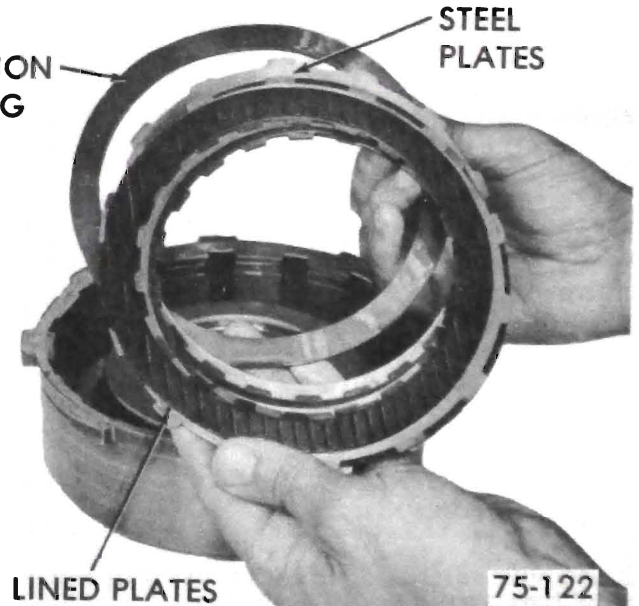

Figure 75-165
6. Remove four (4) lined and four (4) steel plates from direct clutch housing (five (5) each in KL-375B Models). See Figure 75-165.